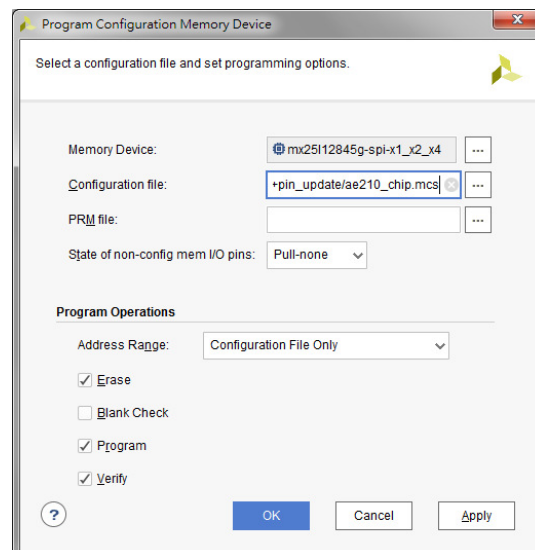

Figure 14. Program Configuration Memory Device
- ❖ Click “OK” in Program Configuration Memory Device page as Figure 14.